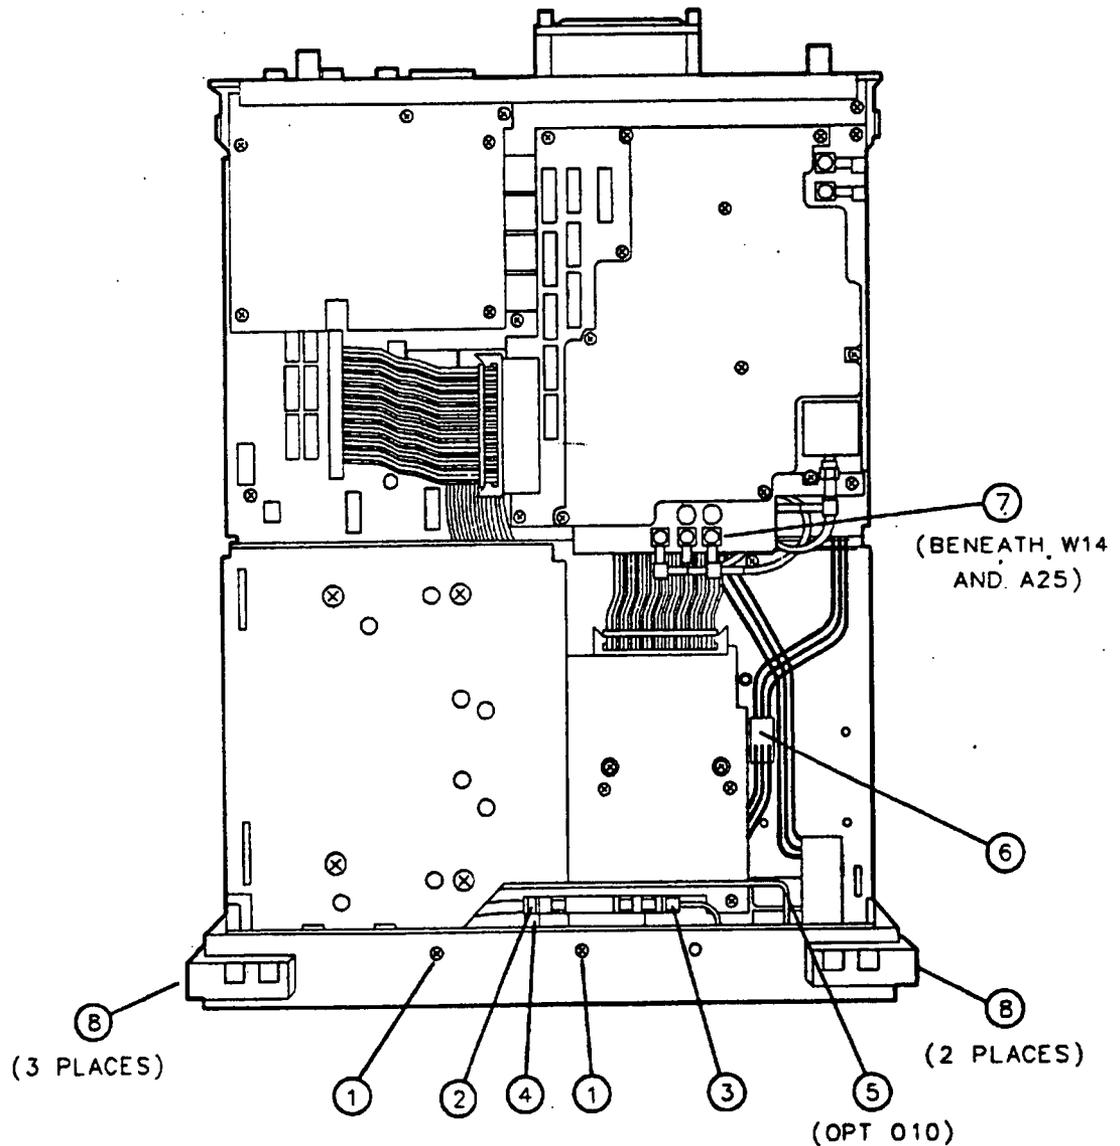

Figure 3-1. A1 Front-Frame Replacement
4. Remove the two screws (1) that secure the front frame to the main chassis. See Figure 3-1.
5. Remove the cable tie (2) that secures the A3A11 and A3A12 assemblies to the W10 semirigid cable.
6. Disconnect the W37 semirigid cable (3) from the 100 MHz COMB OUT connector on the front-frame assembly.
7. Disconnect the W10 semirigid cable (4) from the INPUT 50Ω connector.